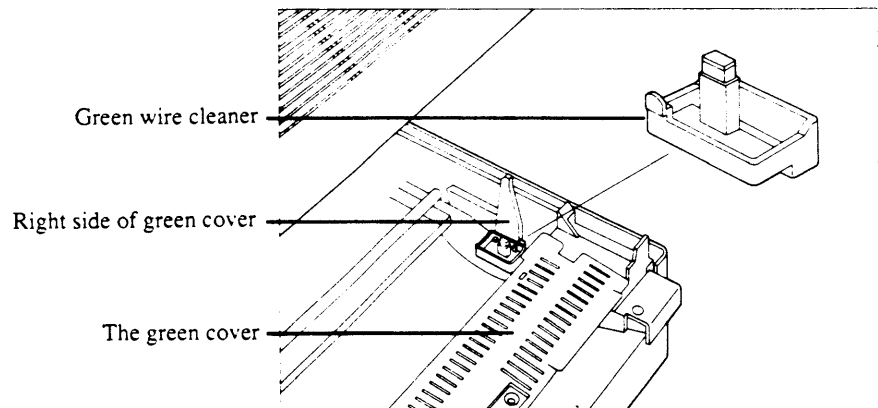

FIGURE 2
1. Open the printer and pull out the toner cartridge. Locate the wire cleaner inside the lower half of the printer. (Figure 2).